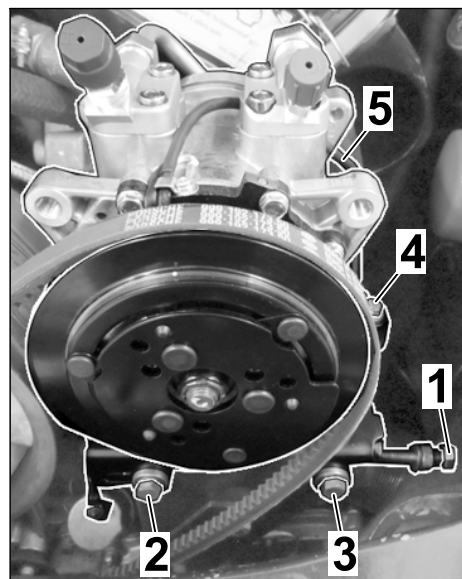

Figure 5
1.2.3 Loosen 2 hexagon-head bolts (**M10 x 50**) and 2 hexagon-head bolts (**M10 x 25**) on the stud on the air-conditioning compressor plate (⇒ *Figure 5*).
1.2.4 Then **LOOSEN** lock nut (1 x) on the tension screw on the air-conditioning compressor plate and unscrew tension screw (⇒ *Figure 5*).
- 1.2.5 Push air-conditioning compressor plate with air-conditioning compressor as far as possible to the left and take the V-belt down off the pulley (⇒ *Figure 5*).